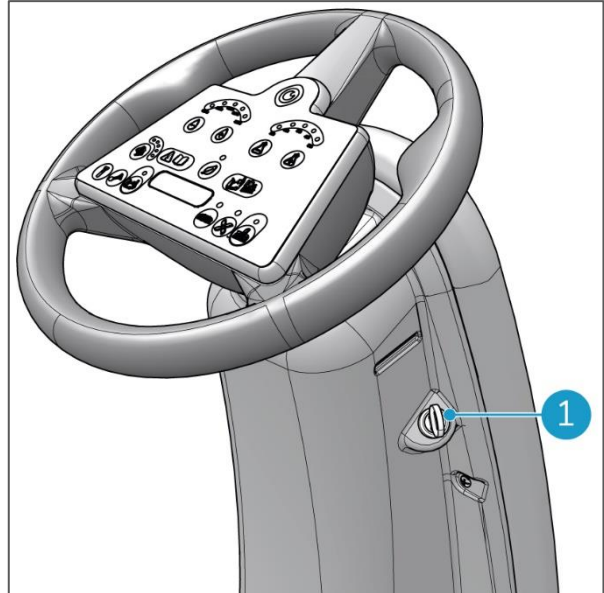

Figure 37
1. Place the ignition key in the keyhole (Figure 37, pos 1).